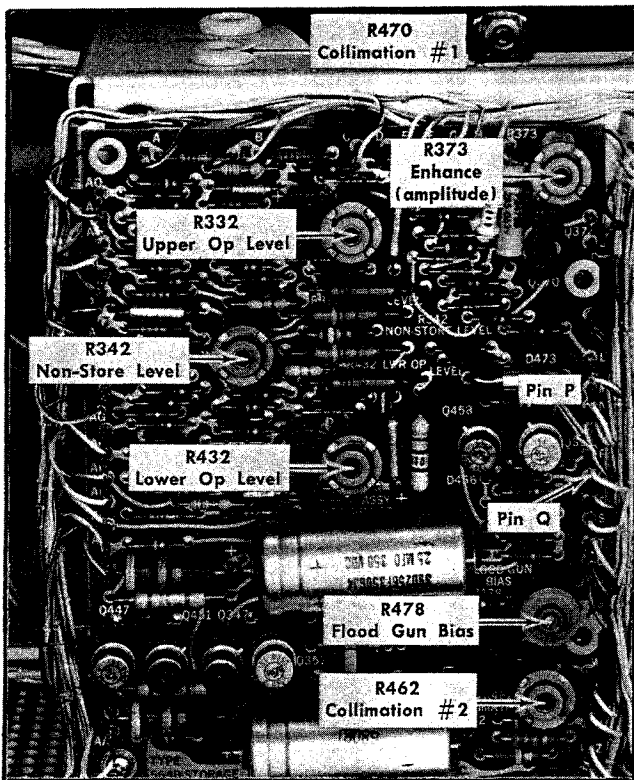

Fig. 5-22. Location of storage controls and test points.
d. With the screen fully written, rotate R478, Flood Gun Bias (Fig. 5-22), fully counterclockwise. Note the shadows at the corners of the screen (Fig. 5-23A).
c. With the screens fully written, rotate R470, Collimation #1 (Fig. 5-22), fully counterclockwise, then clockwise to the point where the screens just begin to brighten.
d. Rotate R462, Collimation #2 (Fig. 5-22), fully counterclockwise.
a. Connect a DC voltmeter, set to the 300-volt range, between pin P of the Storage board (see Fig. 5-22) and ground.
b. Record the voltmeter reading so that the operating level can be reset to this voltage after the range is checked. Meter reading 175.4 V (250)
c. Rotate R332, upper screen Op Level (Fig. 5-22), fully counterclockwise and then note the voltmeter reading. 97.7
h. Connect the DC voltmeter, set to the 300-volt range, between pin Q of the Storage board (see Fig. 5-22) and ground.
i. Record the voltmeter reading so that the operating level can be reset to this voltage after the range is checked. Meter reading 175.0 V (250)
j. Rotate R432, lower screen Op Level (Fig. 5-22), fully counterclockwise and note the voltmeter reading. 90.7
d. When locating the operating point for each target as outlined in the following steps, connect the DC voltmeter to pin P and adjust Op Level R332 for the upper target, and connect the DC voltmeter to pin Q and adjust Op Level R432 for the lower target. These controls and test points are shown in Fig. 5-22.
- b. ADJUST—R342, Non-Store Level (Fig. 5-22), for the best division between the two screens, with no background glow on the upper (non-stored) screen. See Fig. 5-26.